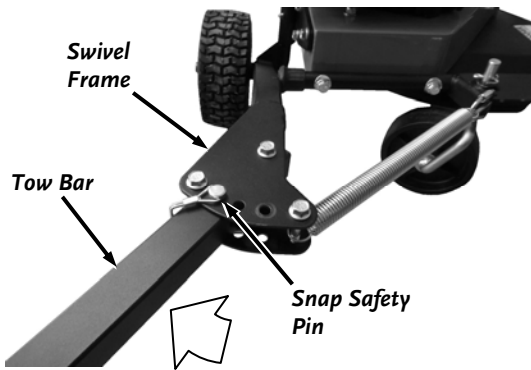

Figure 32
1. Set the Tow-Bar offset to the furthest offset position by removing the Snap Safety Pin and rotating the Tow Bar to the far right (**Figure 32**). Reinstall the Snap Safety Pin through the holes in the Tow Bar and Swivel frame.